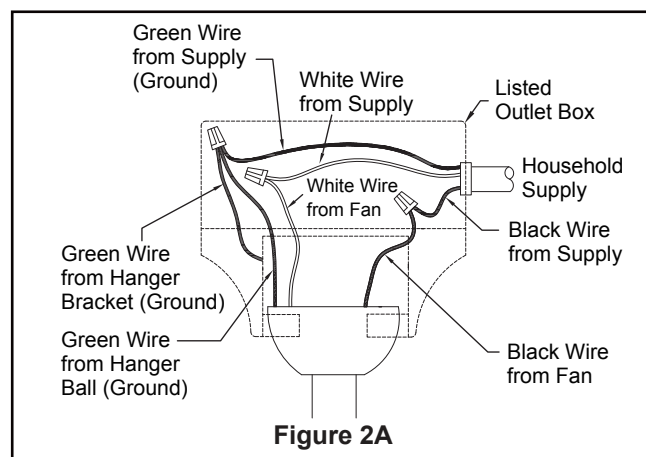

Figure 2A
1. Connect the green grounding lead from the downrod and the green grounding lead from the hanger bracket to the supply grounding conductor (this may be a bare wire or wire with green colored insulation). Securely connect wires with wire connector. Securely connect the white fan motor wire to the white supply (neutral) wire using wire connector. Securely connect the black fan motor wire to the black supply wire using wire connector. (Figure 2A)